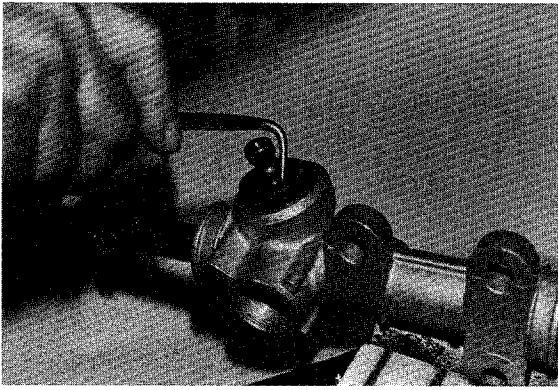

Figure 12-9
8. Remove dust seal (30) with a cotter key puller (Figure 12-9).